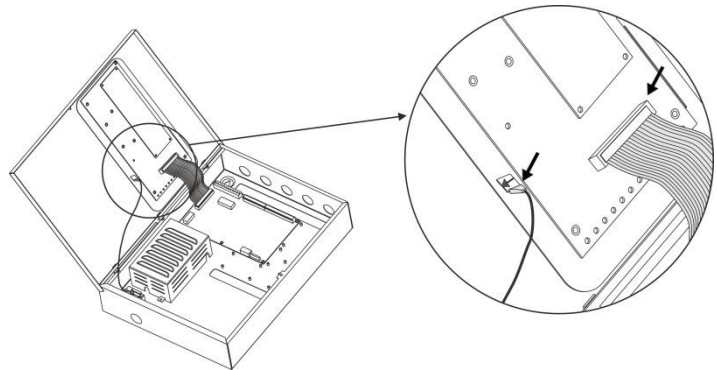

Figure 2
- Open the front cover and disconnect the flat indication cable and the earthing point (Figure 2).
- Connect back the flat cable for the indication and the earthing point (Figure 2).